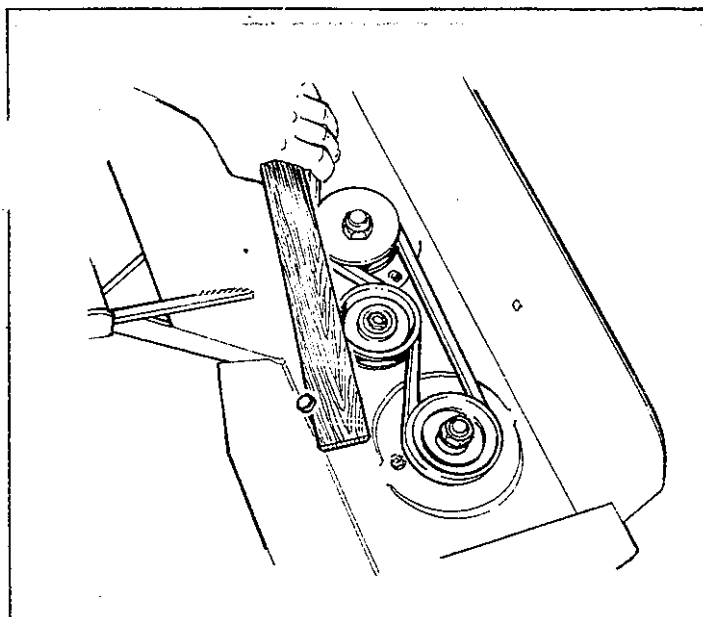

FIGURE 1
3. To tighten the belt on the center and right idler pulleys place a bolt in the housing hole and using a piece of wood tighten belt to proper tension. See Fig. 1.